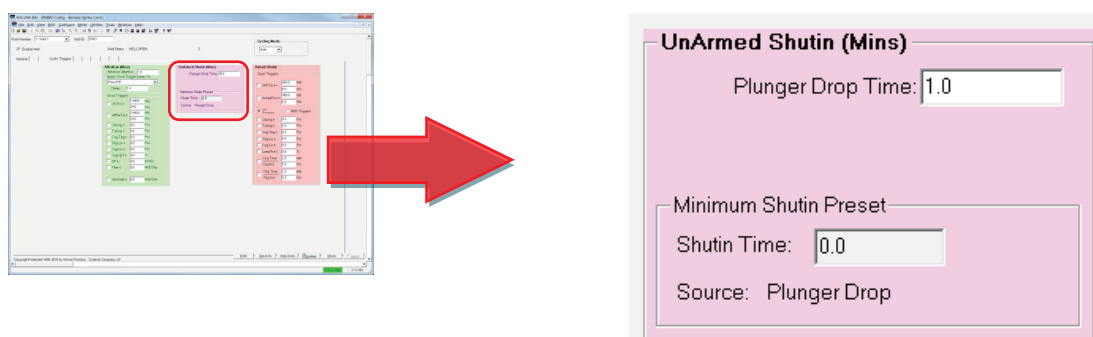

Figure 88. Intermittent Configuration – PMWO Config – Cyclic Triggers tab (UnArmed Shutin (Mins))
3. If necessary, update the **Aft Flw** (after flow), **Armd Tme** (armed time), and **Preset In Effect** fields, as shown in *Figure 88*. For the simulation, select a low value for each field, for instance, 1 minute. Click **Apply** to save the changes you make.